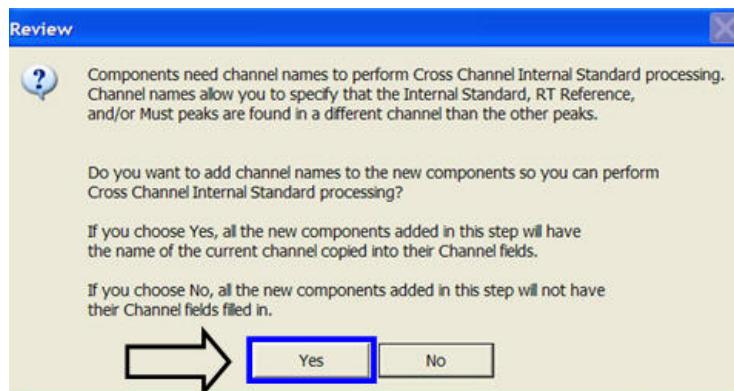

Figure 79 - Choosing channel names
14. Click **Yes** to use channel names to perform Cross Channel Internal Standard processing (Figure 79).